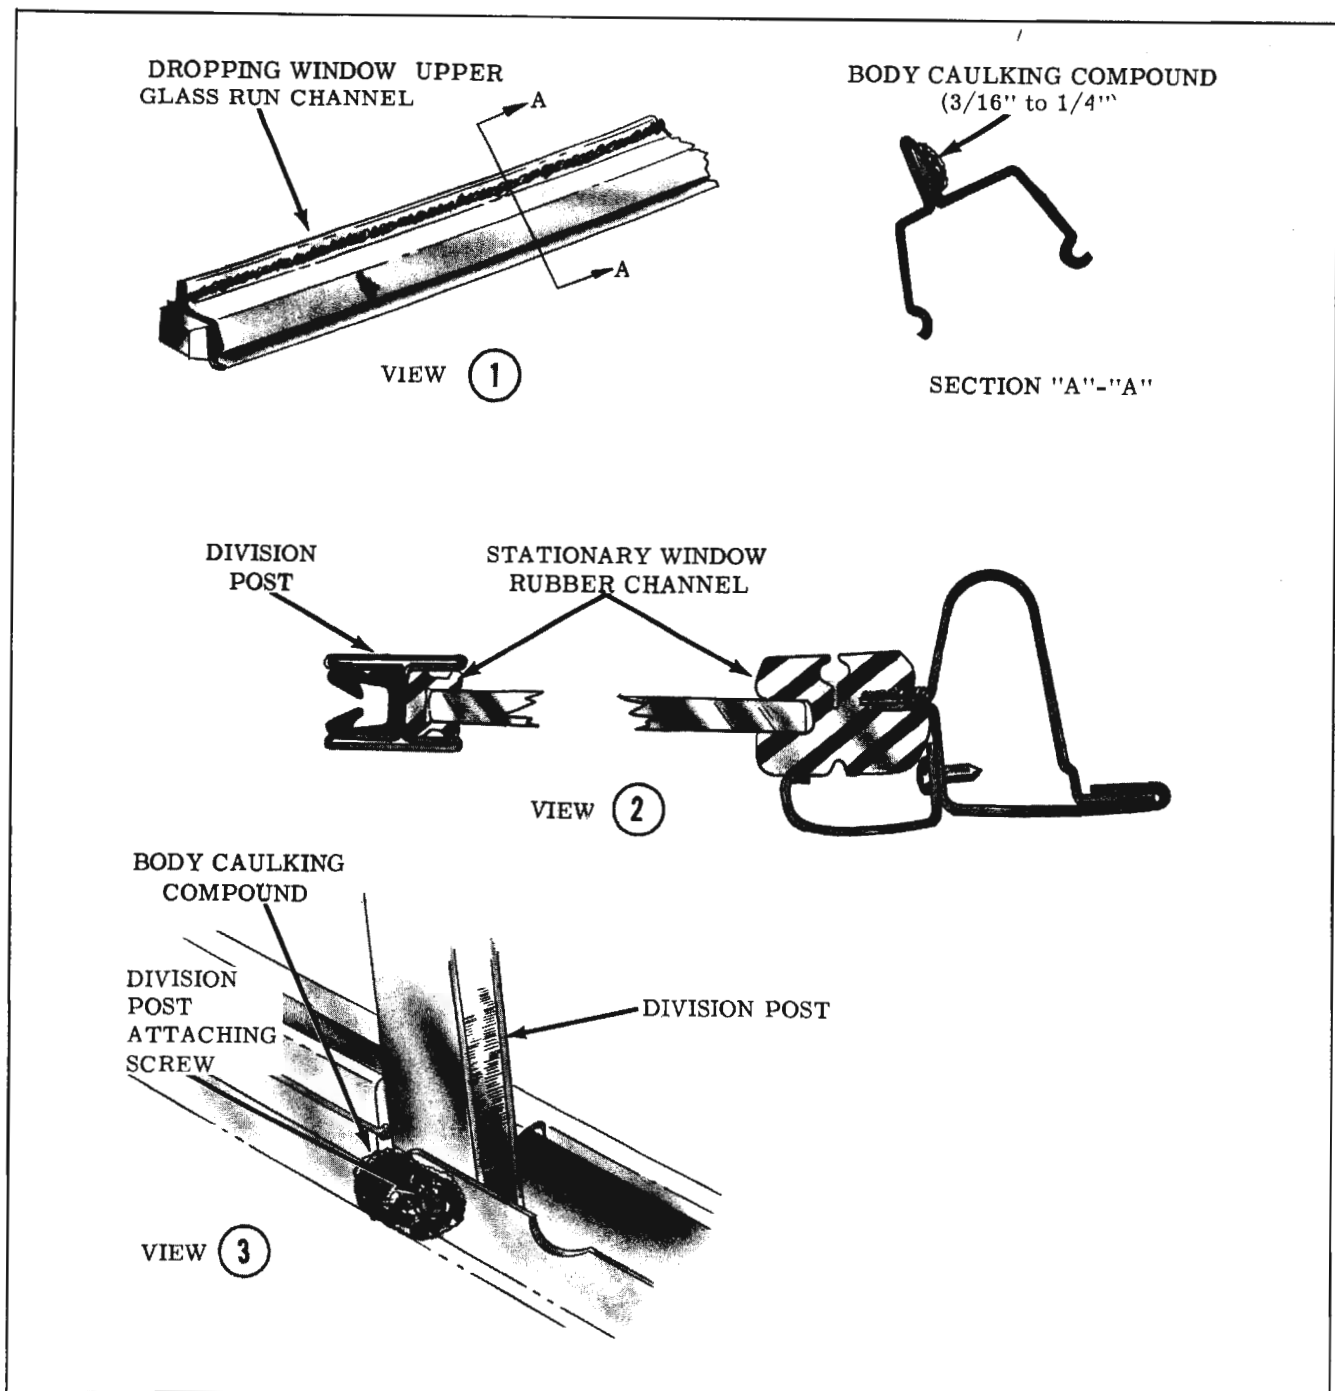

Fig. 16-294 Sealing Stationary Side Window
6. Apply a bead of body caulking compound to retaining flange of dropping window upper glass run channel (Fig. 16-294, View 1) and install channel.
7. Apply a bead of body caulking compound under inner lip of rubber channel across top, down outer edge, and across bottom to effect a weathertight seal between rubber channel and pinchweld flange. (Fig. 16-294, View 2)
9. Apply body caulking compound over division post lower attaching screw and opening at belt line to effect a seal. (Fig. 16-294, View 3)